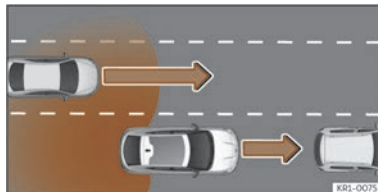

Fig. 145 Overtaking with traffic behind the vehicle.
- When being overtaken by another vehicle >>> **Fig. 145**.